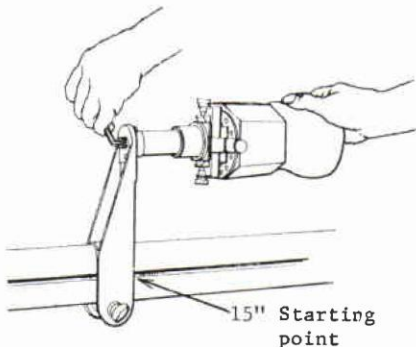

FIGURE 5
2. Using the base tube tape measure for reference, lock the ankle bracket at position 15", reading from the right side of bracket. See Figure 5.